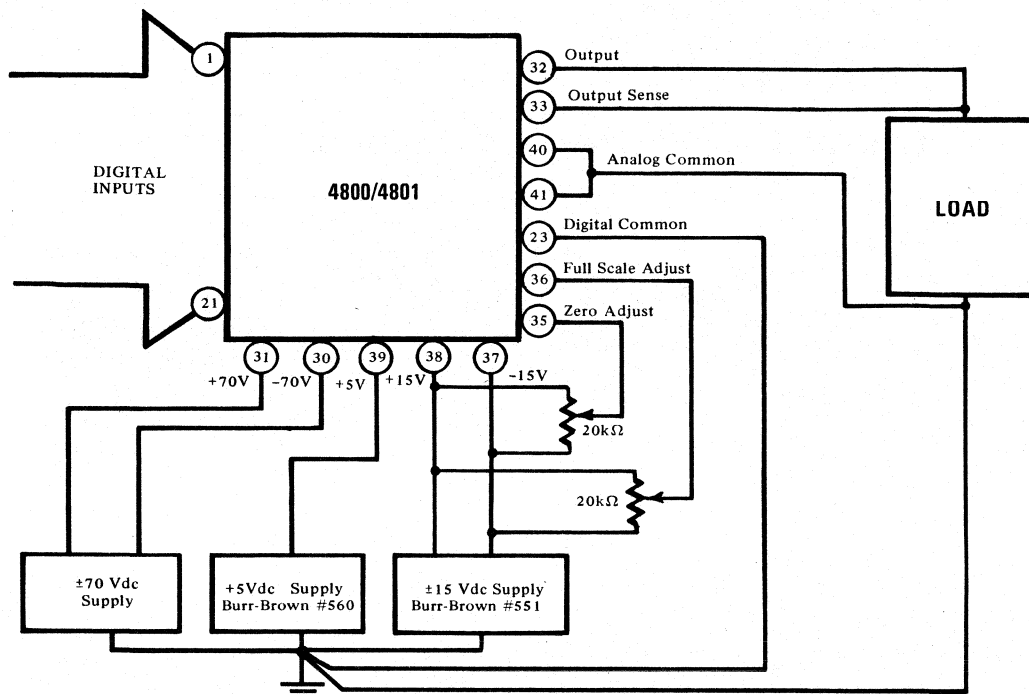

FIGURE 13. Typical Power Supply and Grounding Connections.
- 2) Monitor pin 32 and program 0V output on the -10 V range, set the zero adjust potentiometer (connected to pin 35 as shown in figure 13) for a null.
- 6) Program 0 mA output. Set the zero adjust potentiometer (connected to pin 35 as in figure 13) for output null.
- 7) Program full scale current output, set the full scale adjust potentiometer (connected to pin 36 as in Figure 13) for best full scale accuracy.
The DPVS requires only two adjustments for complete calibration in voltage programming mode. See Figure 13.